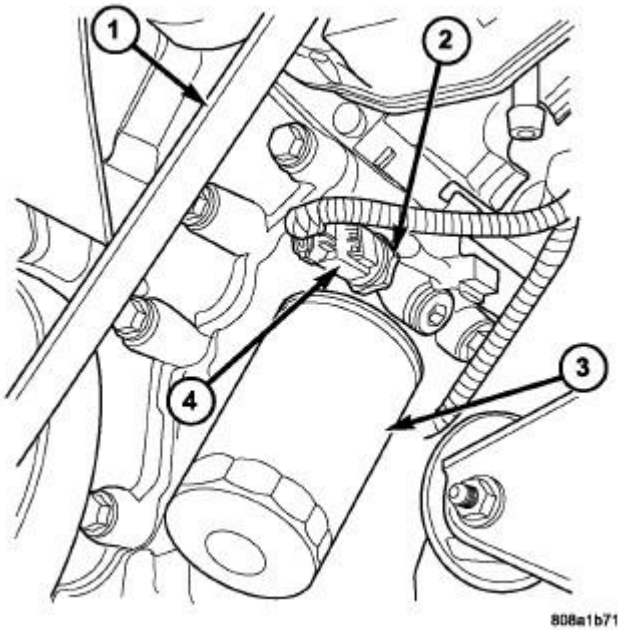

Fig. 134: Belt, Oil Pressure Sensor, Oil Filter & Connector
4. Disconnect oil pressure sender wire (4).
5. Remove the pressure sender (2). Refer to **Fig. 134**.